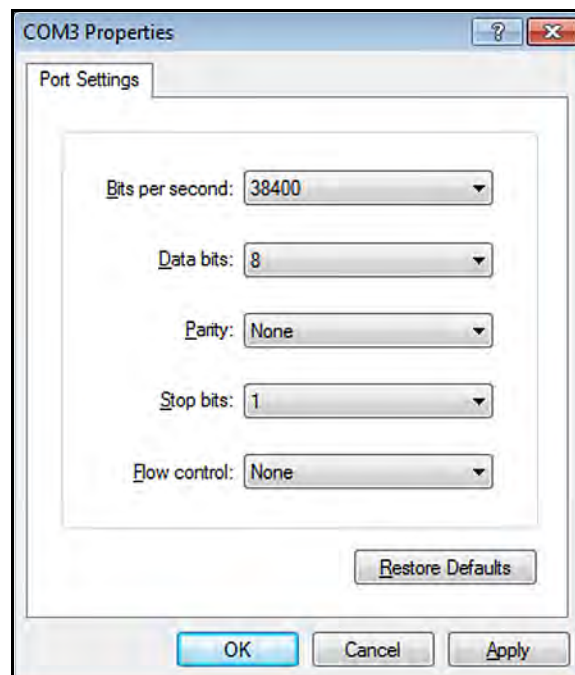

Figure 8: COM Properties
2. Start *HyperTerminal* and set up the communication link to match the Com port and RS232 settings of the PT878 (see *Figure 8* below).